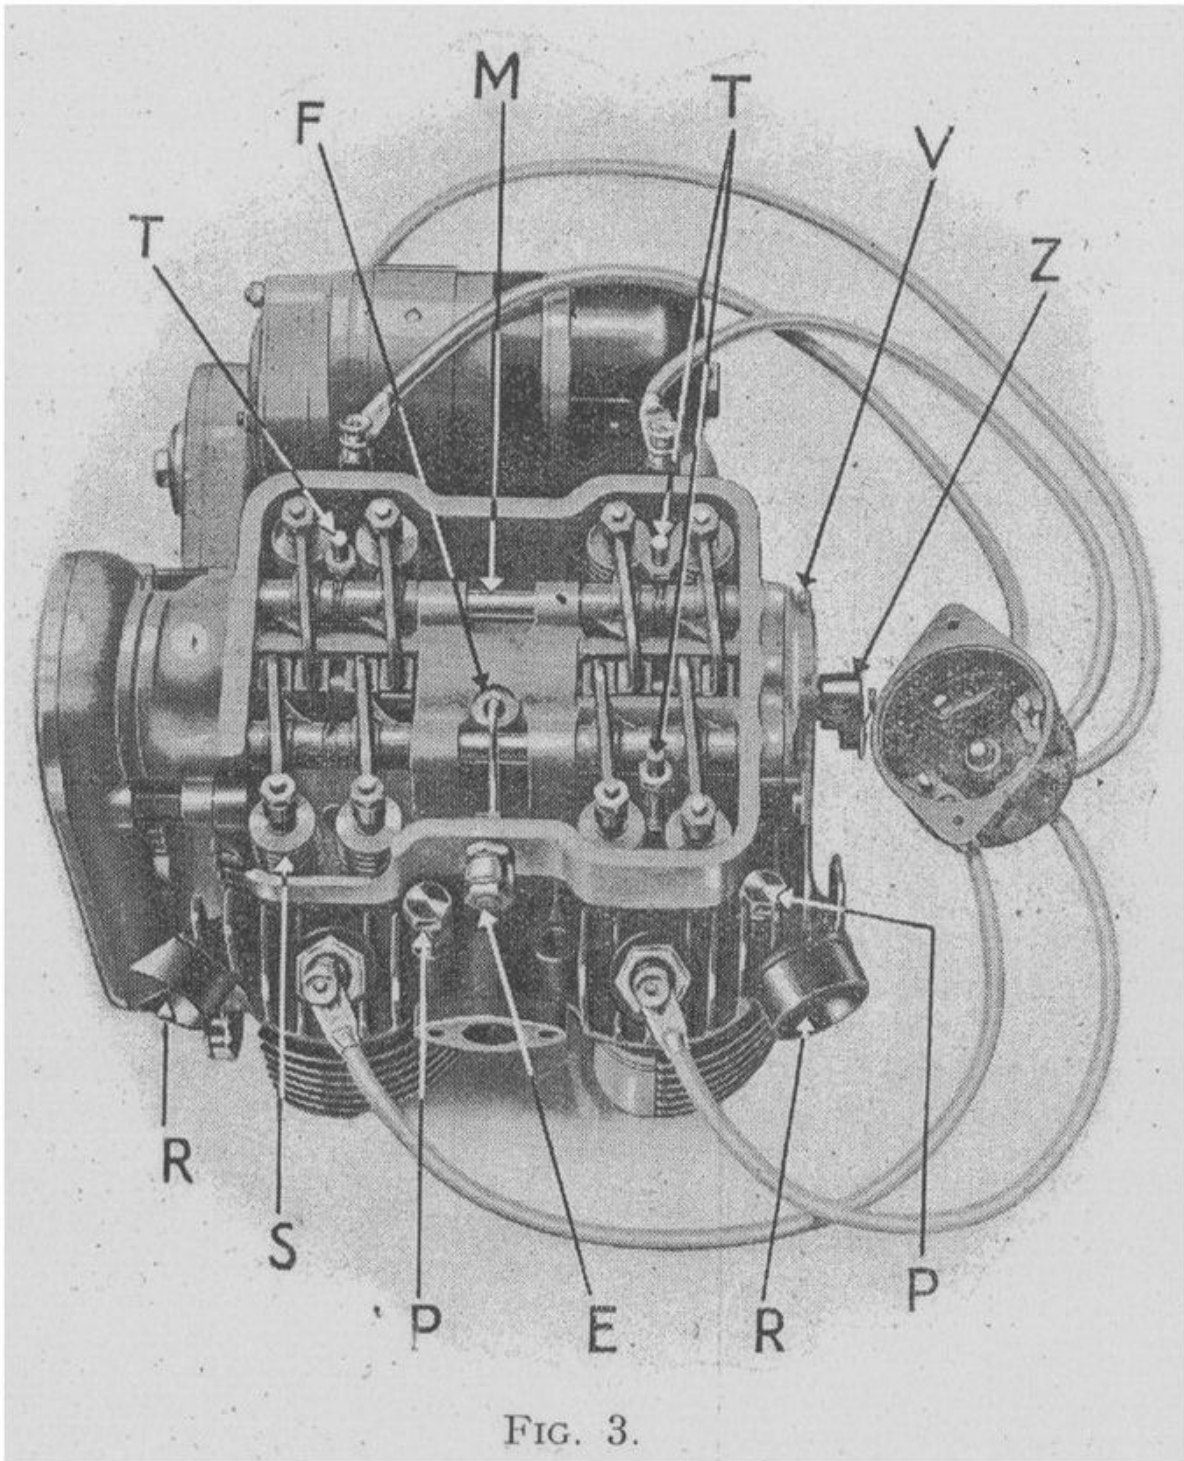

FIG. 3.
8. Check over the leads from the distributor to the sparking plugs, seeing that they go to the right cylinders (See Fig. 3.)
inlet, and filter and baffle should be cleaned periodically. From the baffle the oil passes into the camshaft tunnel via the feed pipe and hole F (Fig. 3). The oil flows both ways along this camshaft tunnel, so that as the cams rotate they dip into the oil, lubricating themselves and the rocker lever end pads, and creating splash lubrication to the rocker lever bearings and the valve stems and guides. Surplus oil drains to the driving side of the rocker box and passes through oil holes drilled in the end of the box, into the camshaft chain case where it drips on to the chain, lubricating this, and creating a heavy oil mist, which lubricates the magneto driving chain. This oil ultimately drains down into the bottom of the two chaincases and so back into the main sump.
The ignition system is perfectly simple, an ordinary 180° magneto being used. This magneto runs at engine speed and therefore provides two sparks per revolution. There is a single high tension lead from the magneto pick-up to the centre of the distributor cover. The current is carried across from this centre lead to each of the four contacts on the distributor cover by means of the rotating centre piece Z (Fig. 3). This composition end piece is an easy push fit on to the end of the camshaft and is located by means of a key, moulded inside the end piece, engaging with a keyway cut in the camshaft. This centre piece can, therefore, be only pushed home in the one position. The connections between the distributor and the different sparking plugs are clearly shown on Fig. 3.